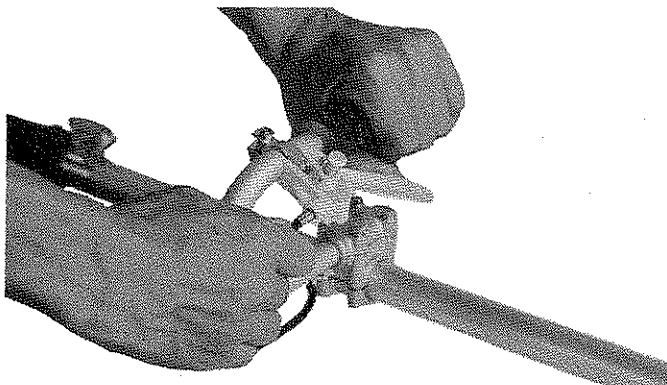

Figure 7
7. Release throttle lever and pull the wire down until it fits into the slot provided in the lever. Figure 7. CHECK ACTION OF THROTTLE LEVER, IT SHOULD MOVE FREELY IN BOTH DIRECTIONS.